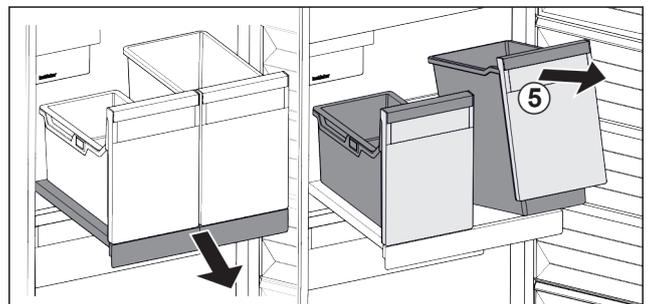

Fig. 84
- ▶ Lift the container Fig. 84 (5) at the front.